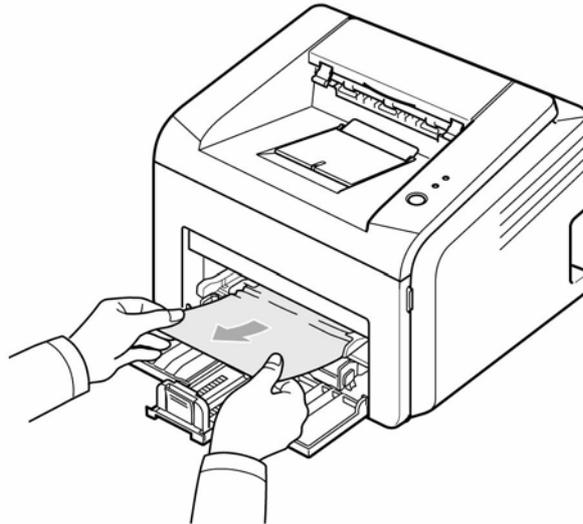

Figure 5
1. Remove the jammed paper in the manual tray, PL 1 by gently pulling it straight out, Figure 5.